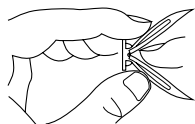

Figure 22 - Folding Anchor
2. Fold floor anchor as shown in Figure 22.